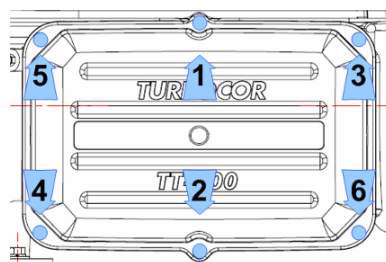

Figure 19 – Service Side Cover Torque Sequence
- Place the Service Side Cover and secure it with the fasteners according to the sequence shown in Figure 19 (Service Side Cover Torque Sequence).